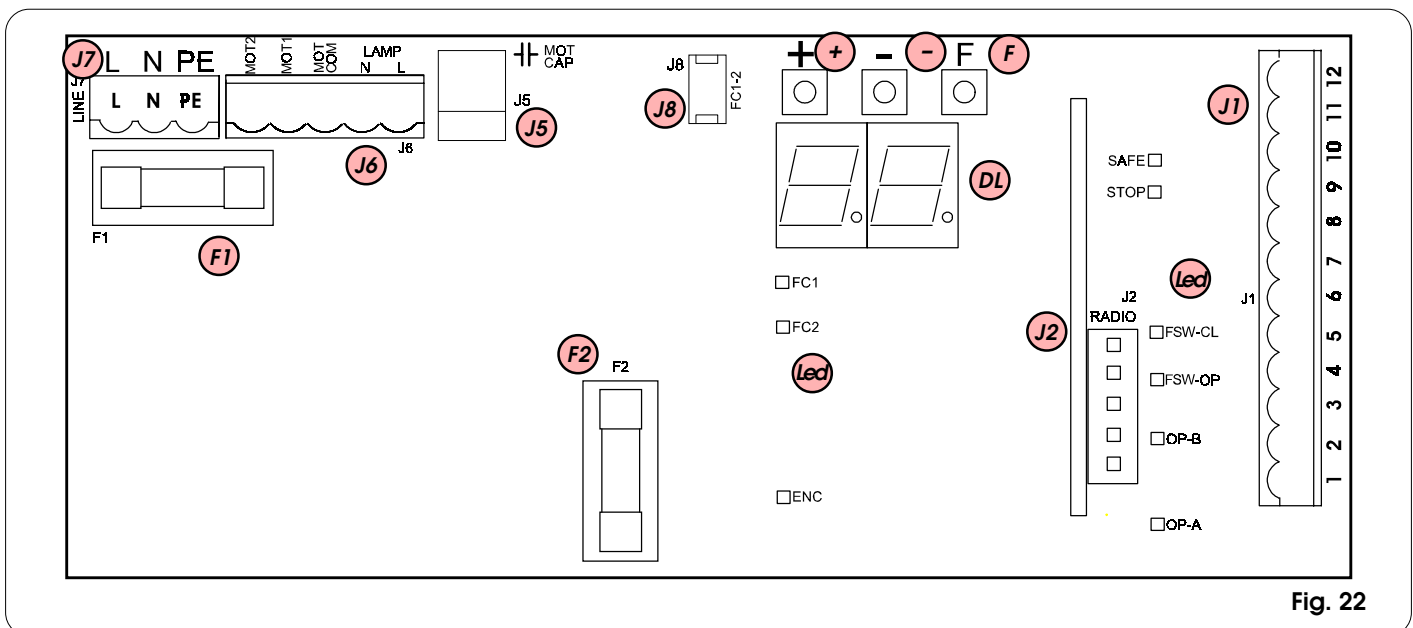

Fig. 22
- Connect the earth cable to the terminal on J7 connector of the board, and to the bush on the operator (figs. 22 and 39).
Protection fuses	2 (see fig. 22 and par. 5.3)